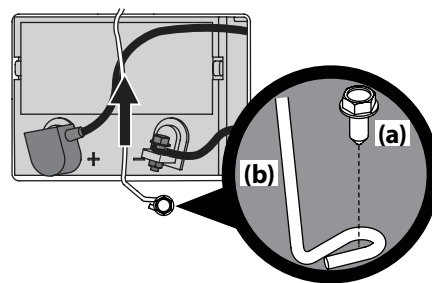

Figure 4-10
- Remove the hex washer screw (a) securing the battery hold-down bracket (b) to the frame. Then flip the battery hold-down bracket (b) up to free the battery. See Figure 4-10.